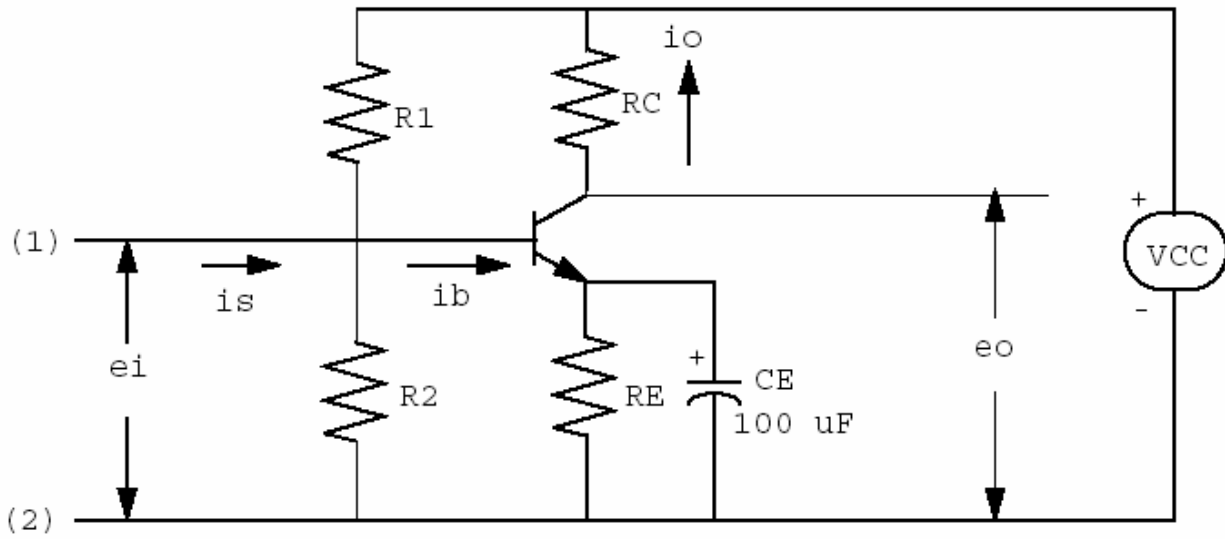
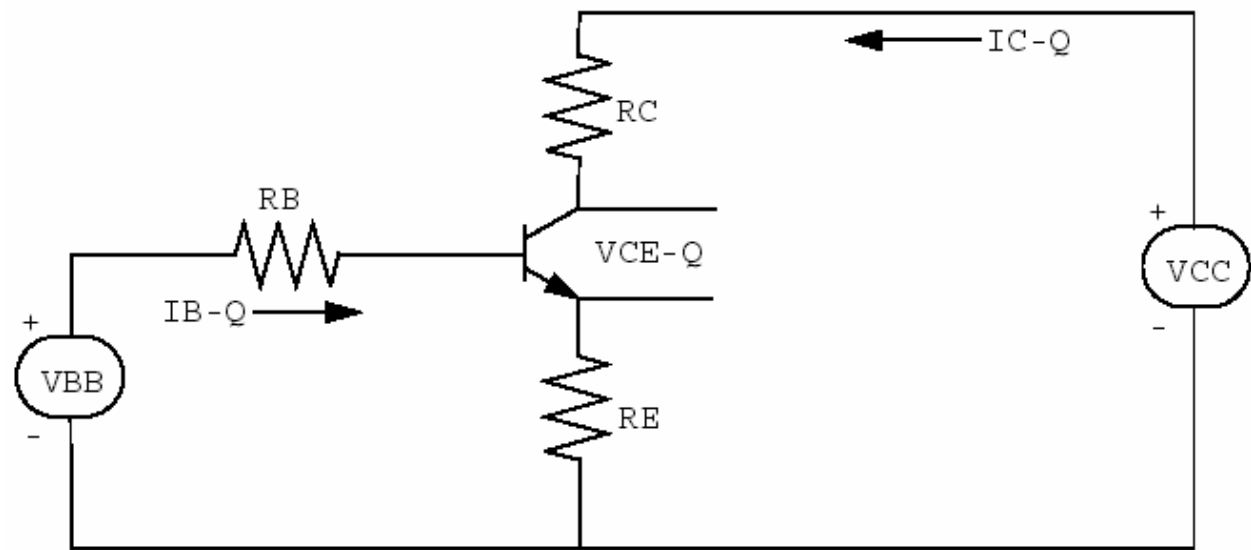
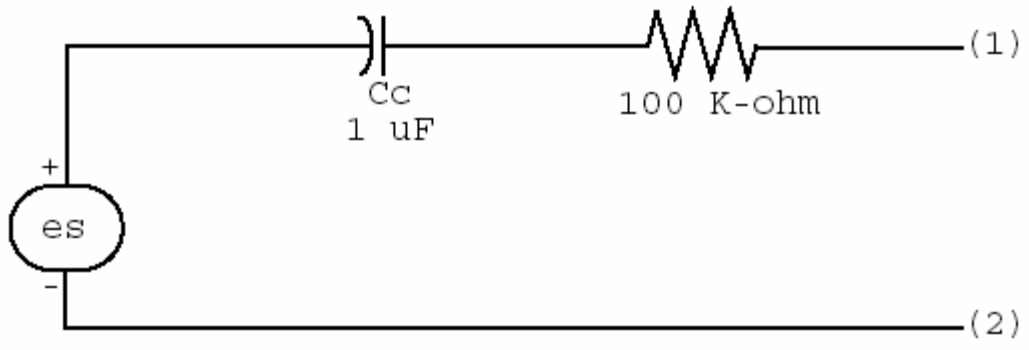

Figure 1.
Figure 2.
Figure 3.
Two important considerations when biasing a transistor are (1), Quiescent conditions and, (2) temperature stability. For the biasing network in Figure 1 (and its equivalent in Figure 2), the temperature stability factor can be expressed by the following equation:
The DC voltage equation about the collector-emitter side of the transistor in Figure 2 can be written as follows:
The equivalent circuit of Figure 2 is obtained by determining the Thevenin's equivalence of the base circuit looking back from the input to the transistor. The Thevenin's equivalent resistance, R_B , and Thevenin's equivalent voltage, V_{BB} , would be as follows:
The DC voltage equation about the equivalent base circuit in Figure 2 can be written as follows:
As a note of interest, for the circuits of Figure 1 through 3, the capacitors will look like open-circuits to DC signals and short circuits to AC signals. Also, the DC power supply will look like a short-circuit to AC signals.
- F-1. Connect the circuit of Figure 1 using parameters calculated in the Preliminary exercise above. Vary R_1 , if necessary, to obtain a $V_{CE-Q} = V_{CC}/3$. Record any changes in R_1 .
- F-2. Apply the circuit of Figure 3 to the input of the amplifier of Figure 1. Set the frequency of the sinusoidal signal source to 5 K-Hertz. Using a dual-trace oscilloscope, increase the magnitude of input signal, e_s , until the output, e_o , begins to distort. Record the peak-to-peak values of e_s , e_i , and e_o .